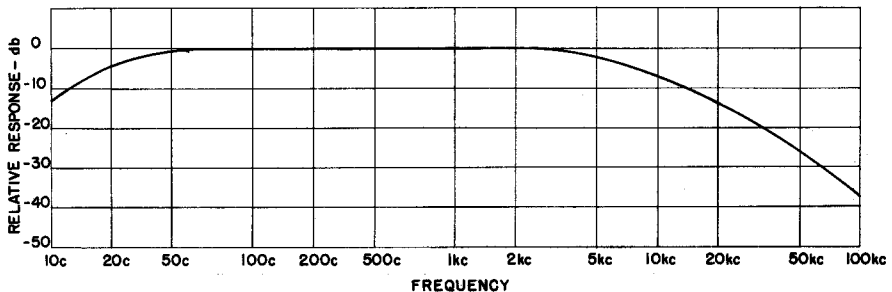

Figure 2. Frequency Response Curve.
**2.5 FREQUENCY RESPONSE.** The maximum open-circuit voltage gain is over 70 decibels at 10 cycles, over 45 decibels at 100 kilocycles, and greater than 83 decibels at midband. The frequency characteristic is shown in Figure 2.